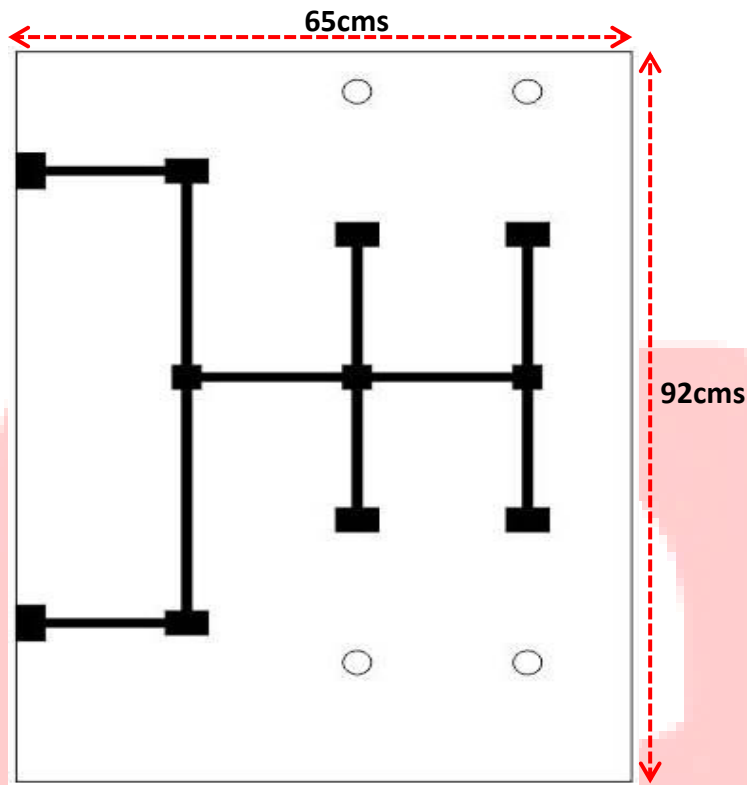

Figure 5: Crater Region Arena
- ii. **Crater Region Arena:** this part of the arena constitutes the Crater Region of dimensions 65cm x 92cm as shown in Figure 5.